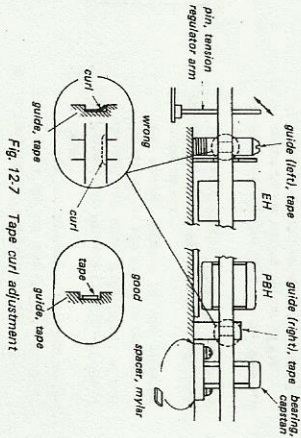

Fig. 12-7 Tape curl adjustment
- (1) Set the machine at 4.8 cm/s (1 7/8 ips) tape speed.
- (2) Be sure that the tape comes in contact with the two tape guides exactly as shown in Fig. 12-7.